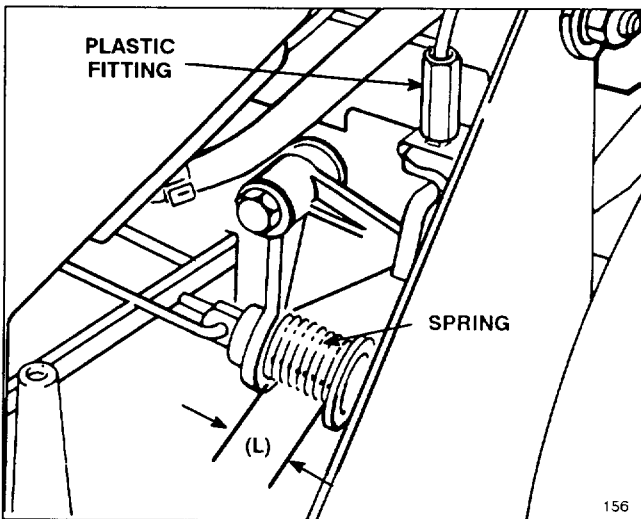

Figure 24
3. Move control bar down and lift up against handle. With control bar against handle, measure spring length (L) at the front of the spring as shown in Figure 24.
5. To adjust, rotate plastic fitting on blade brake cable (Fig. 24) until spring dimension is as near as possible to but not less than 1". (See following note.)